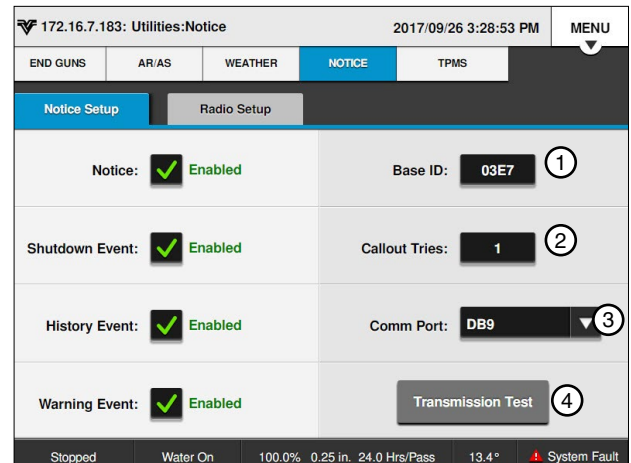

Figure 79-1 Notice Screen
Use Base ID to set the BaseStation identification number in the control panel. The factory default setting is 9999. Refer to Figure 79-1.
1. Push **Menu**, **Utilities**, and **Notice** to display the Notice screen. Refer to Figure 79-1.
To transmit current status information, push **Menu**, **Utilities**, and **Notice** and push the **Transmission Test** button. Refer to Figure 79-1.